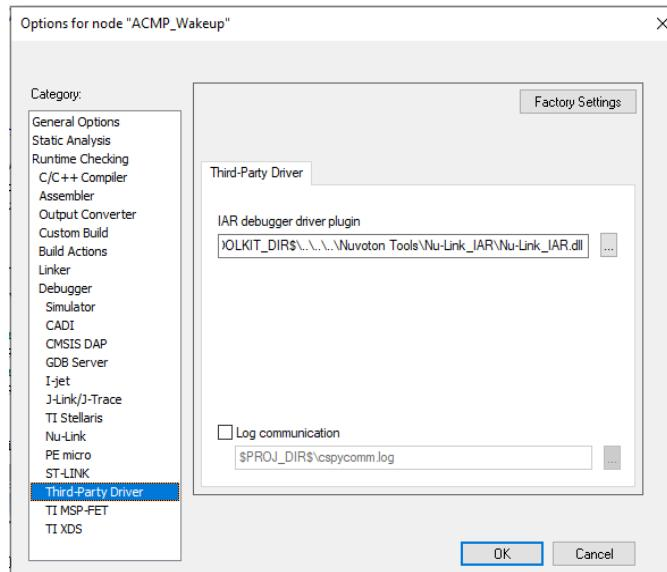

Figure 5.2-31 Set the Path of the IAR EWARM Debugger Driver Plugin
- (7) In the **Third-Party Driver** page, specify the path of the IAR debugger driver plugin “C:\Program Files\Nuvoton Tools\Nu-Link\_IAR\Nu-Link\_IAR.dll”, as shown in Figure 5.2-31.